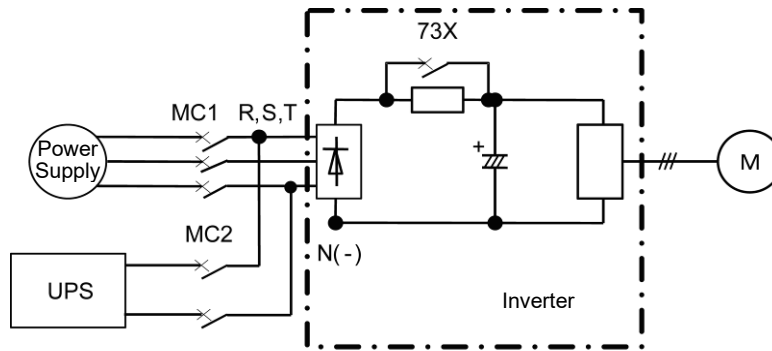

Figure 5.3-7 UPS operation connection diagram
- (1) Terminal function "BATRY/UPS" (data = 59) can be assigned to any digital input terminal.
- (2) As shown in the connection diagram example below, DC link bus voltage is supplied from the UPS to the main circuit ([L1/R] - [L3/T] or [L2/S] - [L3/T]). See, Figure 5.3-7.
- (3) The required power supply voltage depends on the size of the load and on the driving speed of the motor.
- (4) The terminal that "BATRY/UPS" (data = 59) is assigned has to be turned on simultaneously with the MC2.